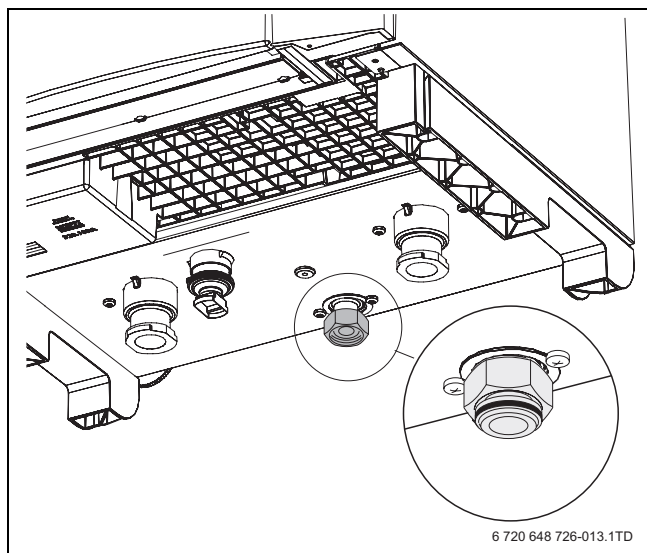

Fig. 13 Rubber seal
- ▶ Make sure that the factory-fitted flat rubber seal is located in the threaded connection (boiler side) (→ fig. 13, detailed picture).